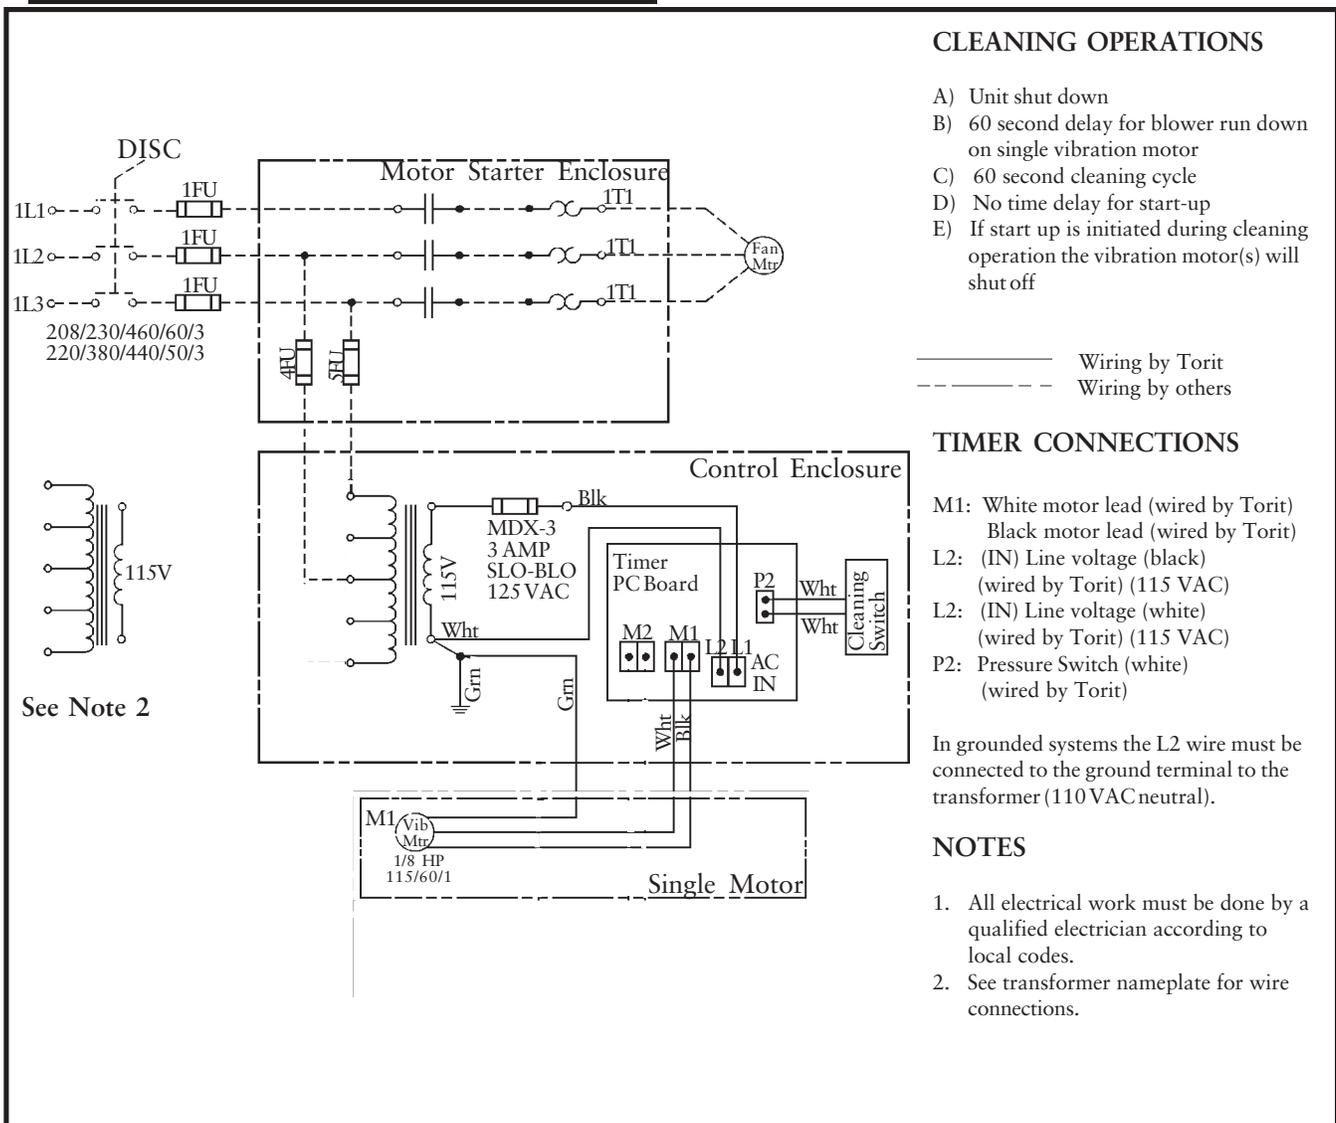

Figure 16
1. Make electrical connections to the disconnect switch*, fan starter*, fan motor and control box. See Figure 16—Electrical Wiring Diagram and reference 2SG-40533-00 Single Filter Cleaning Mechanism Print. Fan access is through the top door of the cabinet.